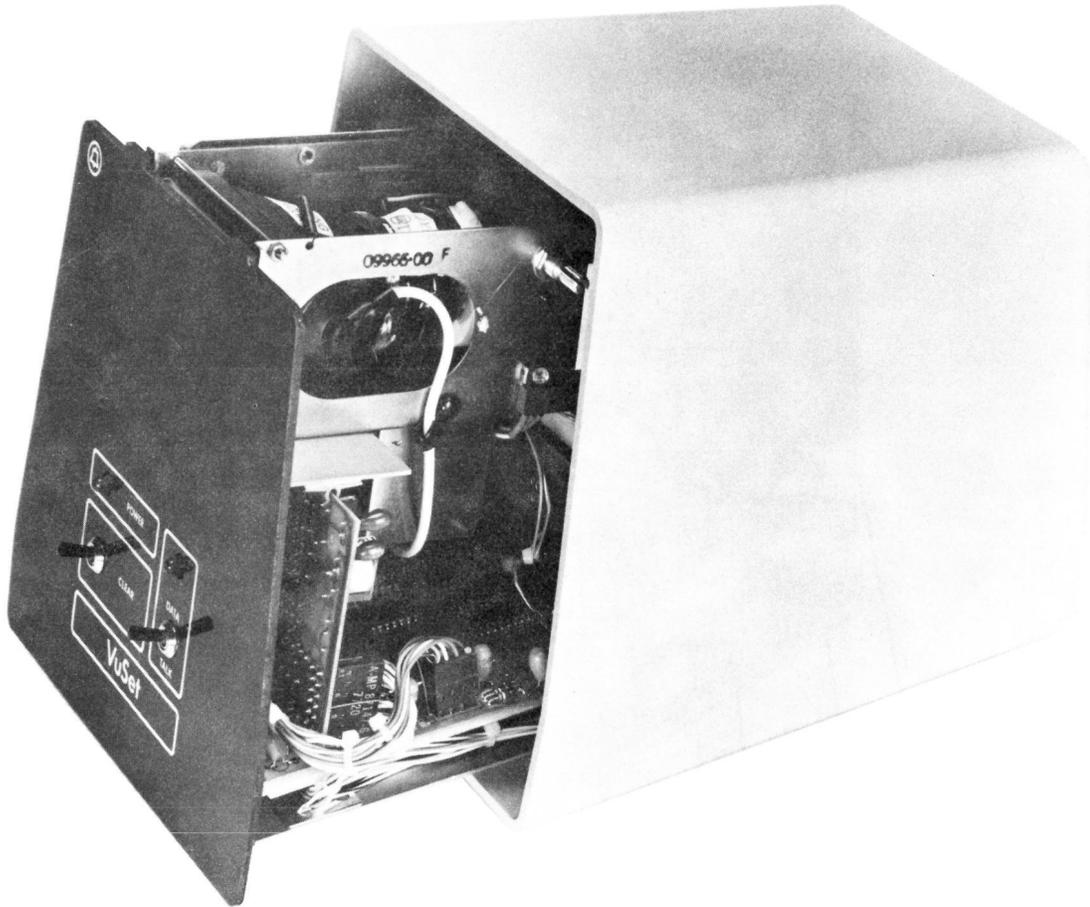

Figure 2, Removing Chassis From Housing
- e) Slide the terminal chassis out the front of the housing. (See Figure 2)